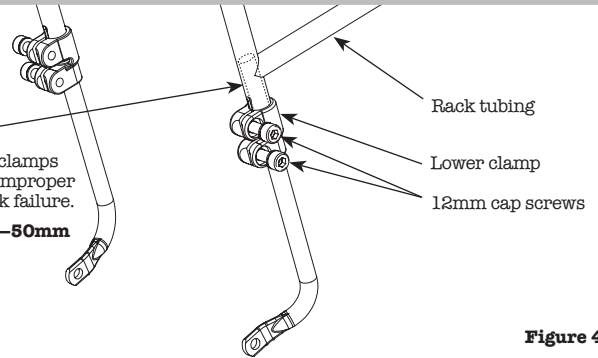

Figure 4
- Lightly grease the lower rack stays and install them into the clamps. Grease the threads of the 12mm cap screws and use 4mm hex key to partially thread the screws into the clamps. (Figure 4) Do not tighten them yet.